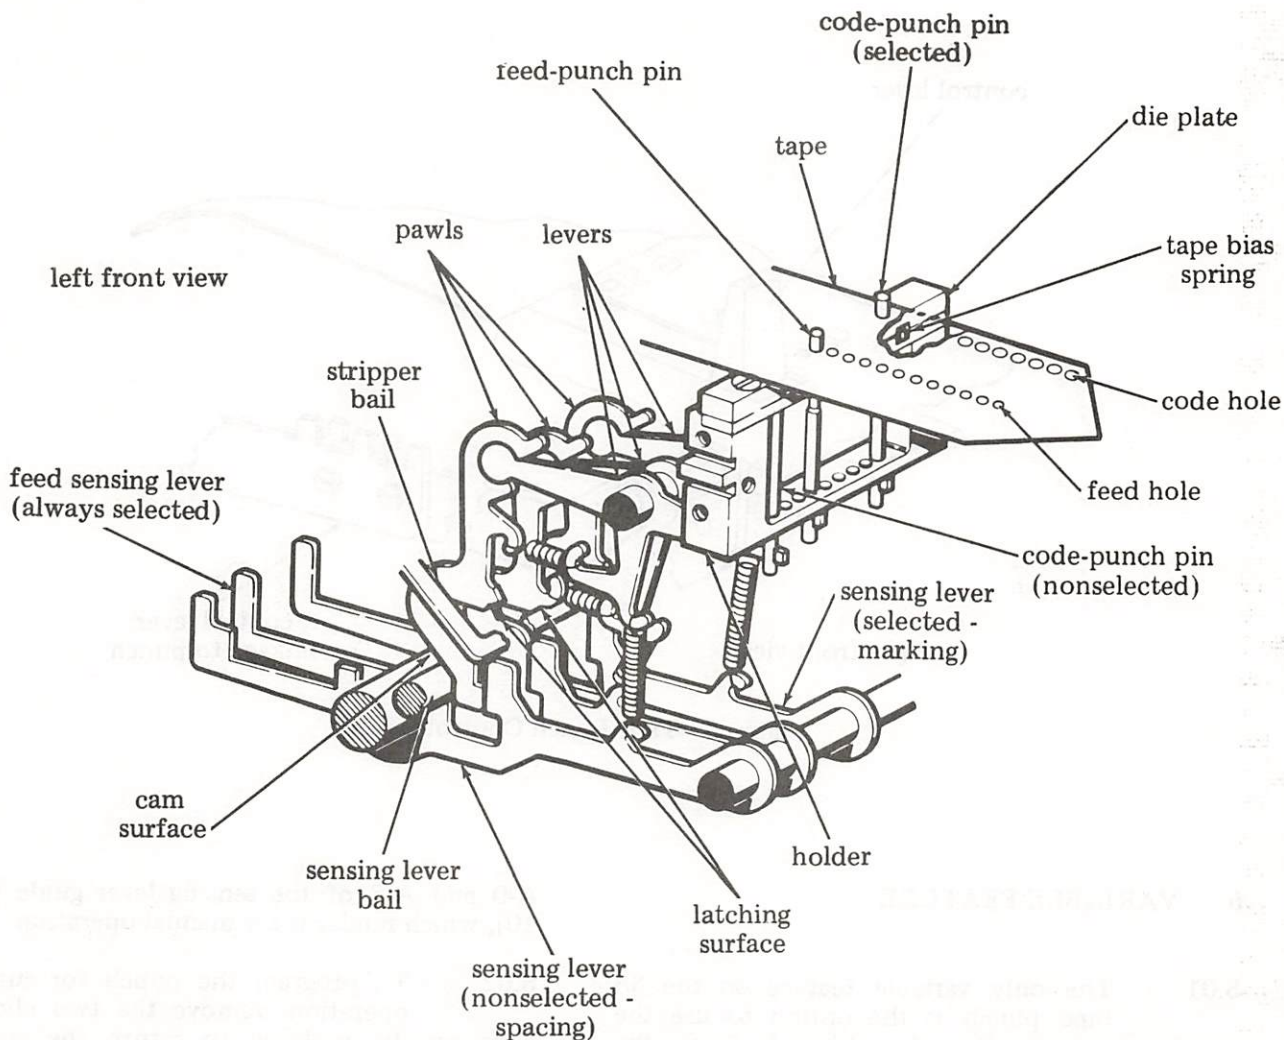

Figure 7 - Punch Block Mechanism
3.18 The punch block mechanism consists of code-punch pins, a feed-punch pin, holder, die plate, and a tape bias spring (Figure 7). The code-punch pins and feed-punch pin are oriented to the die plate through slots which engage levers in their respective code level. The tape bias spring always biases the tape against one edge of the holder. This results in the code hole and feed hole relation to the tape edge to be held constant.